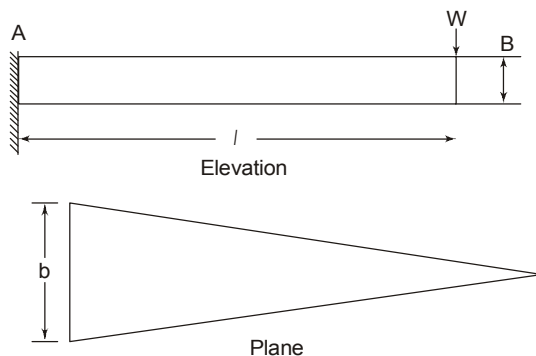

Fig. 2
8. (a) A cantilever of length ‘l’ and depth ‘d’ tapers in plan in such a way that the breadth ‘b’ at the fixed end, decreases to zero at the free end. Determine the deflection at the free end due to load ‘W’ acting at the free end (Fig.2.)